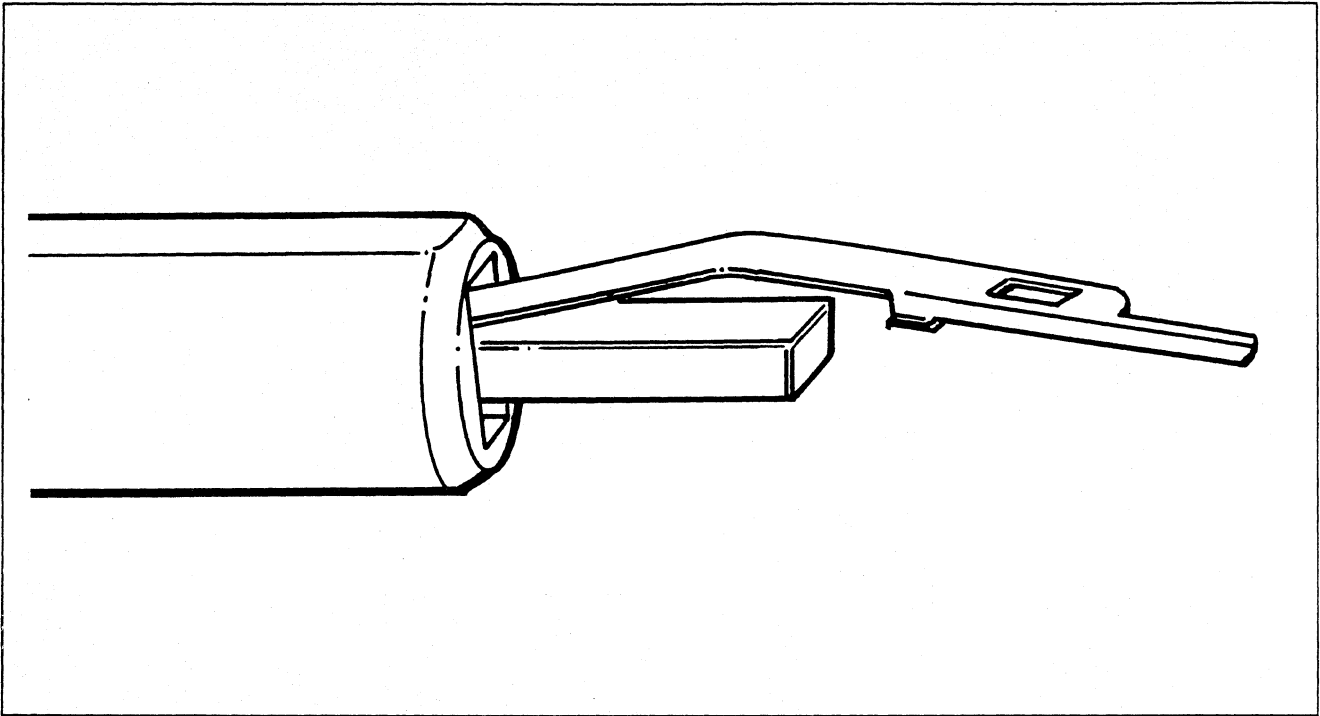
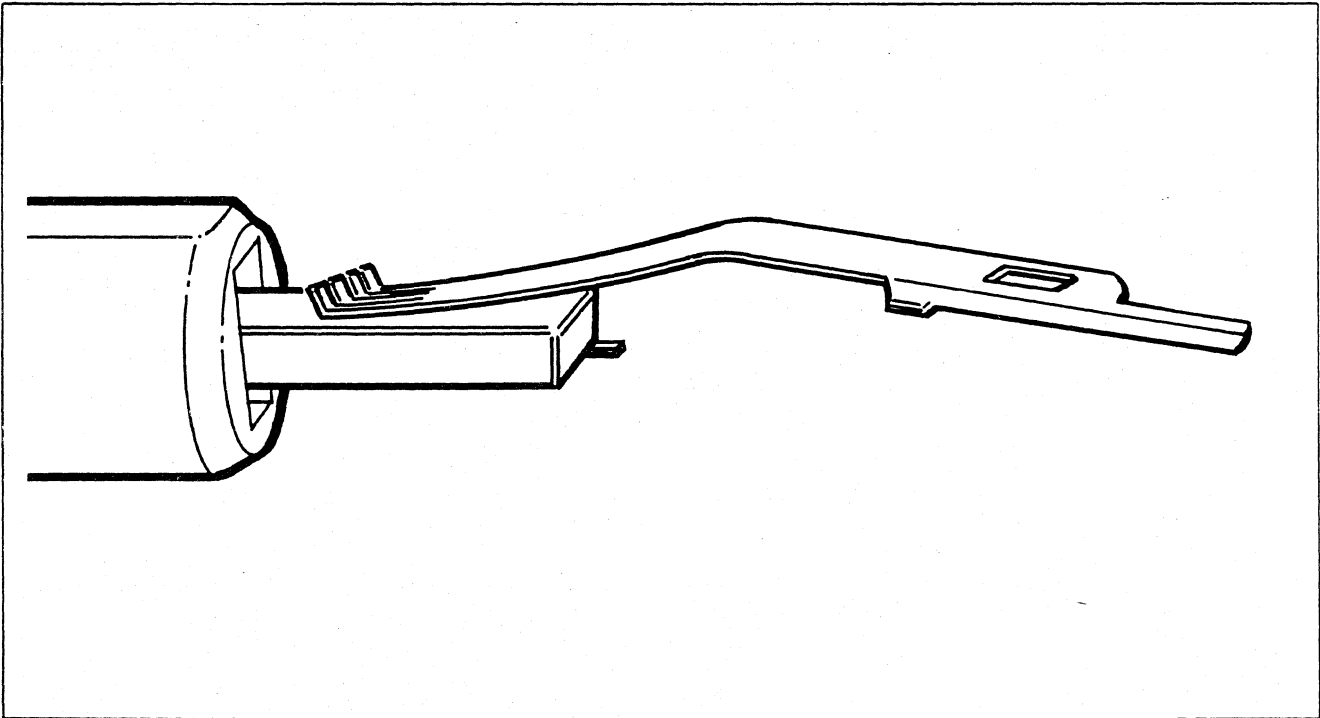

Figure 5-7.
Figure 5-8.
- h. Insert the solid contact (P/N 373-30052-2) in the insertion tool with the bend to the outside and the solder end up (see **figure 5-7**). Insert the split contact (P/N 373-30053-2) with the split end in first (see **figure 5-8**).